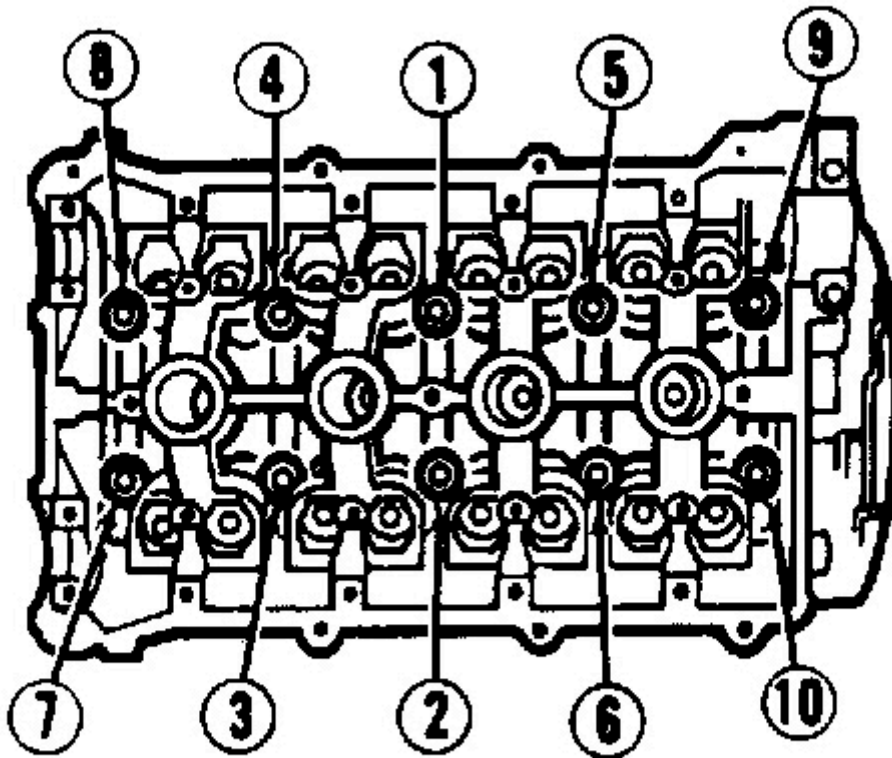

Fig. 2: Installing Cylinder Head Bolts (1.6L)
2. Ensure gasket surfaces of head and block are clean of old gasket and sealant. Place new head gasket on cylinder block. Carefully place cylinder head on block. Tighten cylinder head in sequence and in two stages to correct specification. See **Fig. 2**.